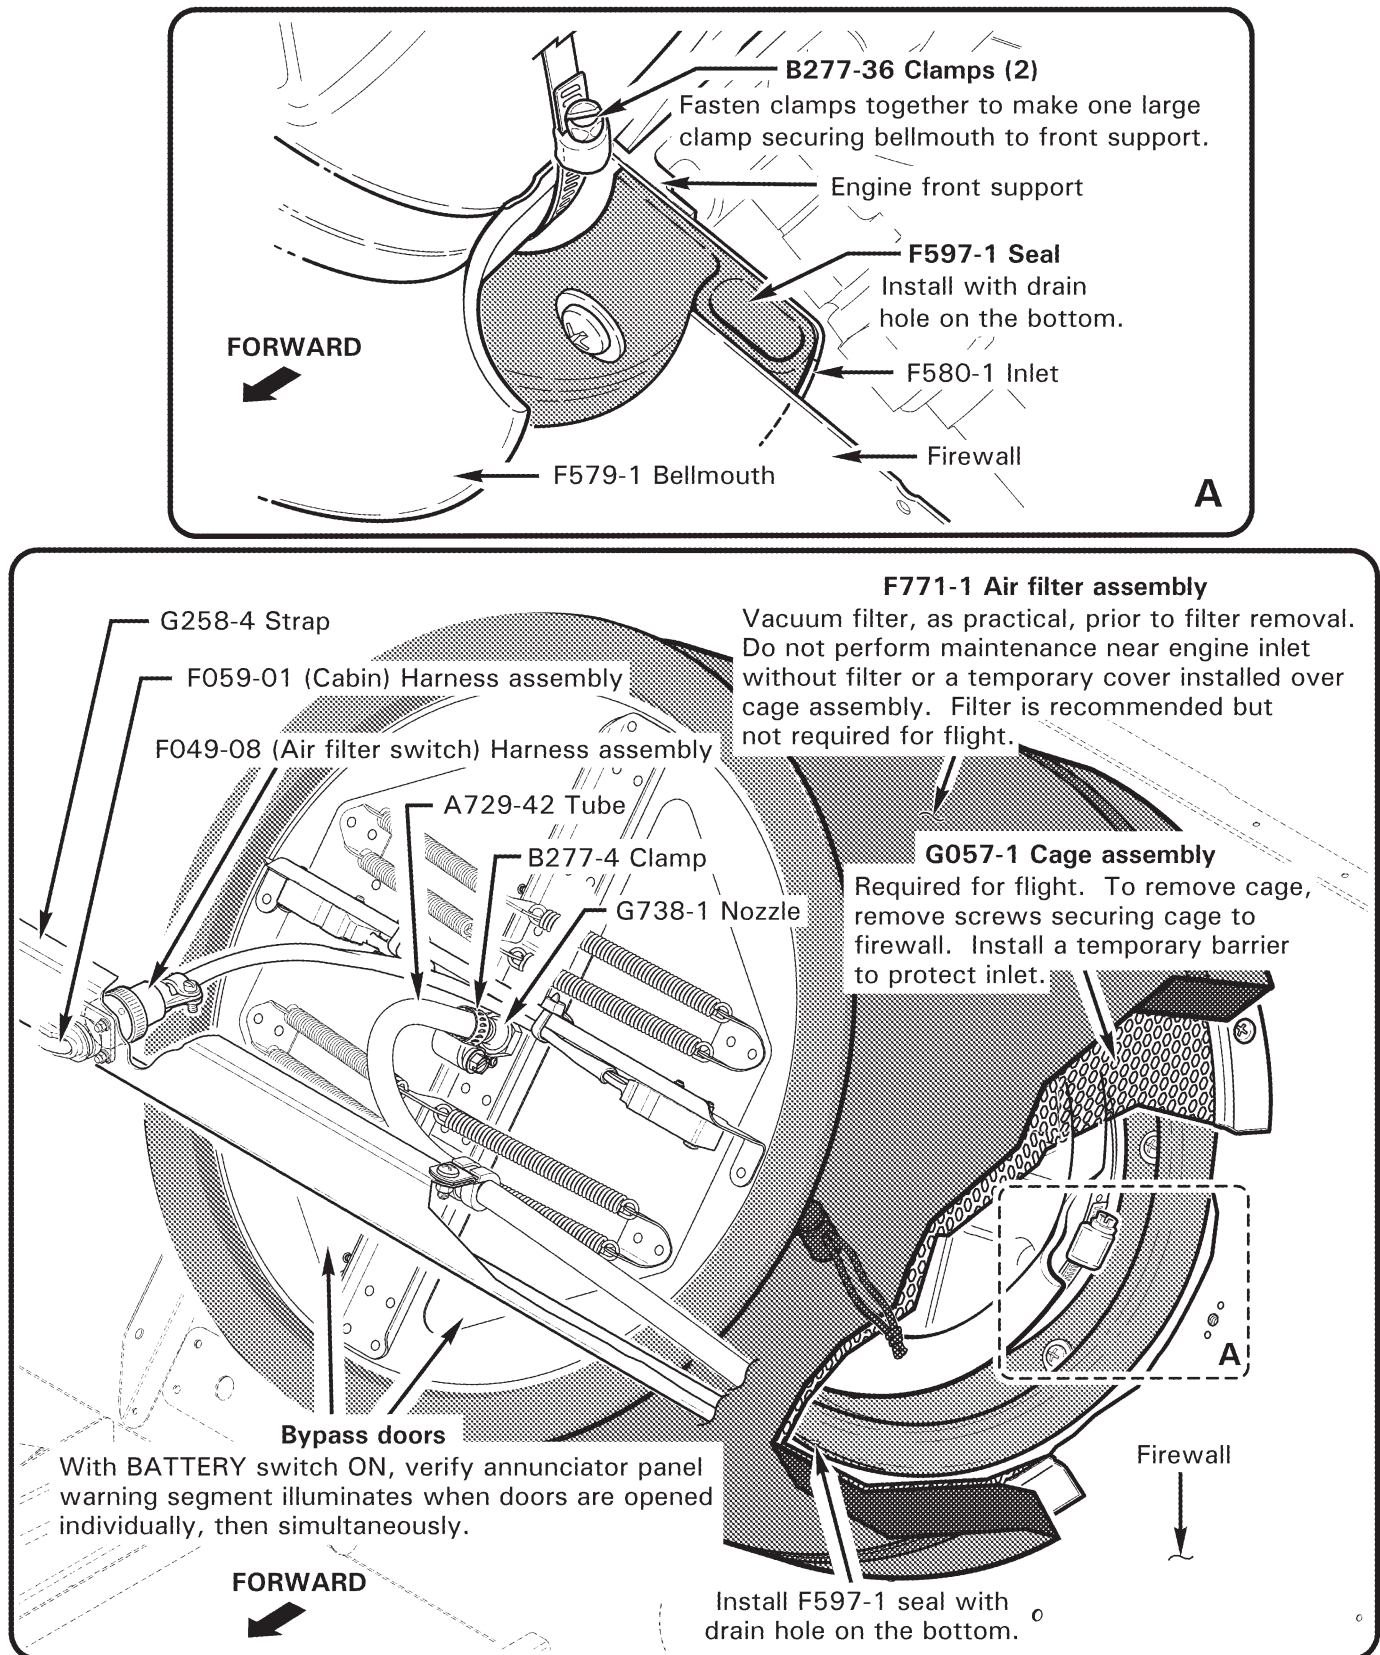

FIGURE 71-3 INDUCTION (STANDARD FILTER SHOWN)
2. Refer to Figure 71-3. Vacuum exterior of F771-1 filter assembly.
1. Refer to Figure 71-3. Remove temporary cover. Pull F771-1 filter assembly aft over G057-1 cage assembly and tighten cords as required. Verify security.
2. Refer to Figure 71-3. Remove F579-1 bellmouth cover and loosen B277-36 clamps securing bellmouth to engine front support. Remove bellmouth and clamps.
1. Refer to Figure 71-3. Remove engine front support cover, install F580-1 inlet and F597-1 seal (drain hole on bottom) on front support, and install hardware. Verify security.